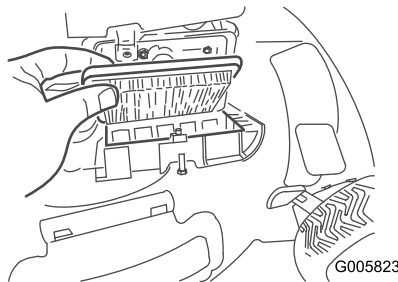

Figure 23
2. Replace the air filter (Figure 23).